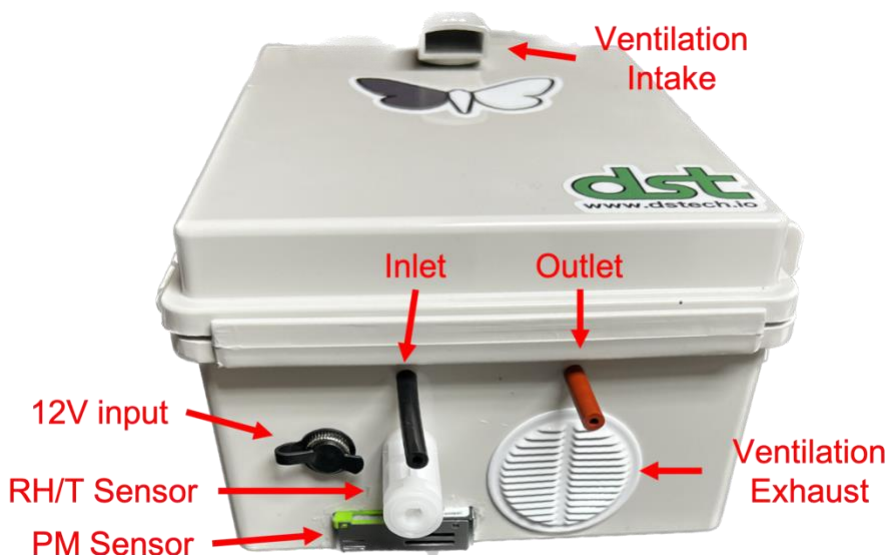

Figure 10. Bottom View of Outdoor Enclosure
In Figure 10 below, the outdoor enclosure of the ObservAir is depicted, displaying a view from the bottom of the instrument. Key features showcased in this illustration include the 12V barrel jack power input, the inlet and outlet vents, as well as the specific locations of both the particulate matter (PM) sensor and the combined relative humidity/temperature sensor. To maintain optimal instrument temperature, an internal fan draws air into the enclosure through the intake vent and expels it via the exhaust vent.